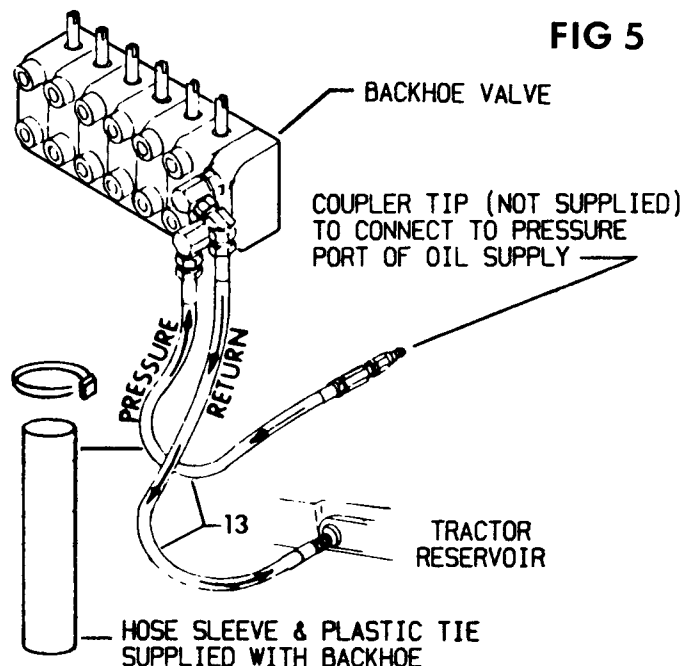

FIG 5
3. OPEN-CENTER SYSTEM WITH RETURN OIL NOT REQUIRED FOR LUBRICATION - Fig 5:
The pressure hose (13) on the backhoe control valve should be connected to the pressure port of the tractors remote couplers or directly to the tractor valve. Install hose sleeve supplied with backhoe on pressure hose to cover fitting on backhoe valve and secure with plastic tie provided. The return hose (13) on the backhoe control valve should be connected directly to a port on the reservoir, as shown in Fig 5.